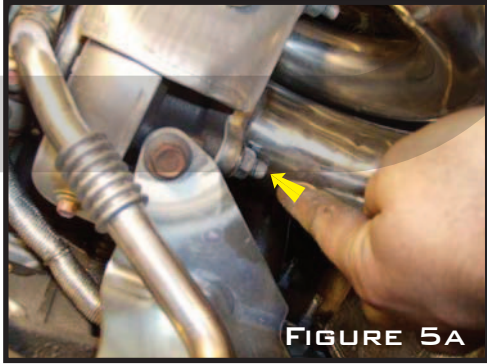

FIGURE 5A
A. FROM THE BOTTOM OF THE CAR INSTALL THE NEW CORKSPORT DOWNPIPE ONTO THE STUDS OF THE TURBO WITH THE ORIGINAL OR NEW GASKET. PUT SOME ANTI SEIZE ON THE STUDS TO MAKE INSTALLATION OF THE NUTS EASIER. ONCE THE DOWNPIPE IS ON THE STUDS INSTALL ONE NUT ON THE LOWER-FORWARD STUD SHOWN IN FIGURE 5A. YOU MUST INSTALL THIS NUT BEFORE TIGHTENING THE REST OR THERE WILL NOT BE ENOUGH CLEARANCE BETWEEN THE DOWNPIPE AND STUD TO INSERT THE NUT. TIGHTEN TO 39-46 FT/LBS.